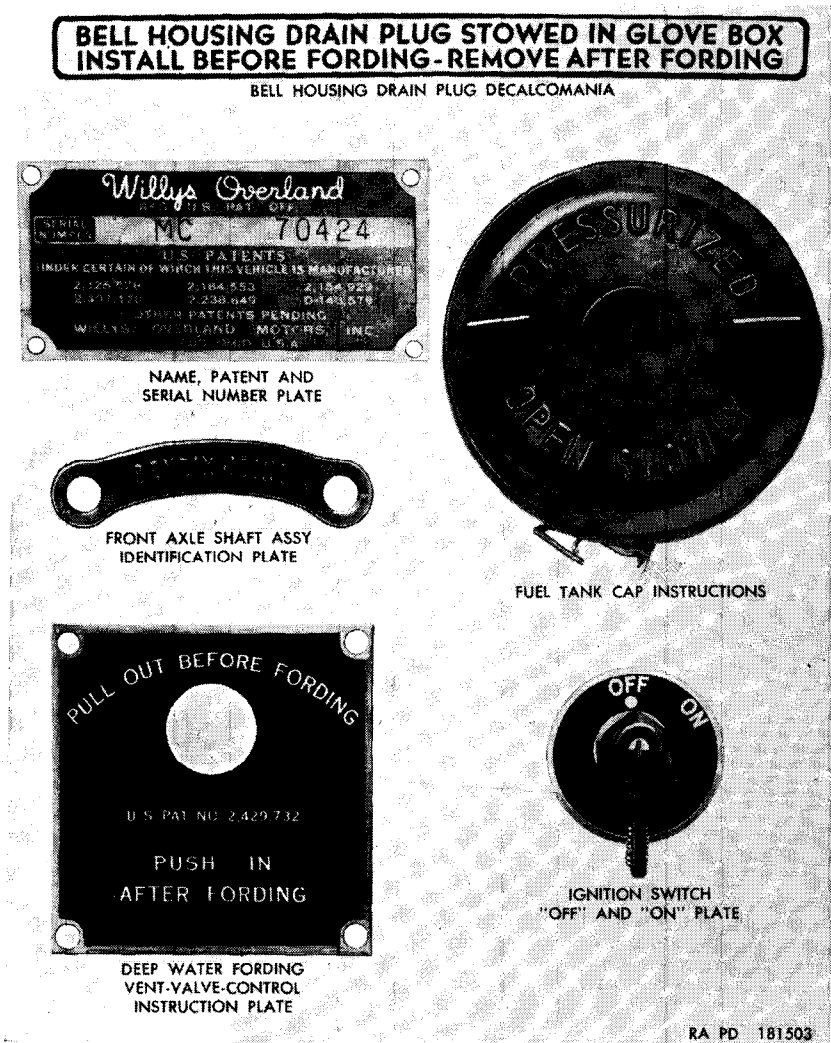

Figure 5. Instruction decalcomania and data plates.
- (9) *Name, patent, and serial number plate* (fig. 5). The name, patent, and serial number plate is located on the inside of the body on the front of right rear wheel fender well.
- (2) *Deep water fording vent valve control instruction plate.* The deep water fording vent valve control instruction plate (fig. 5) is attached to the instrument panel behind the deep water fording vent valve control (H, fig. 7). The plate gives instructions for operating the control when fording.
- (4) *Ignition switch OFF and ON plate* (fig. 5). The ignition switch OFF and ON plate is located on the instrument panel to the left of the instrument cluster around the ignition switch (G, fig. 7) (MWO ORD G740-W5). The plate indicates whether the switch is on or off.
- (5) *Bell housing drain plug decalcomania* (fig. 5). The bell housing drain plug decalcomania is located on the instrument panel to the left of the instrument cluster and above the ignition switch. It gives the location of plug when not in use, and installation instructions.
- (6) *Fuel tank cap instructions* (fig. 5). The fuel tank cap is located on the left side of the vehicle. A decalcomania